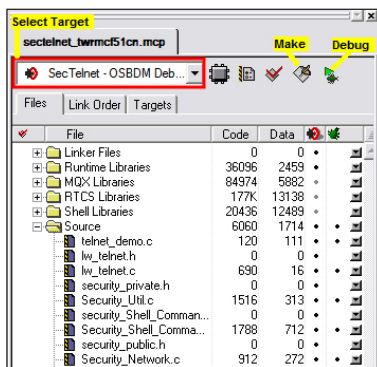

Figure 2: Project Loaded in the CodeWarrior IDE
8. In the project pane, select the “SecTelnet - OSBDM Debug Int Flash” build target. See Figure 2.
10. Open the Security.h file in the CodeWarrior window. Double-click the file item located in the “Source” group in the CodeWarrior project tree. See Figure 2.
12. Compile the project by pressing the F7 key or by clicking the Make icon on the project pane toolbar. This icon is identified in Figure 2.
13. Now start debugger by clicking the Debug icon. This icon is identified in Figure 2.